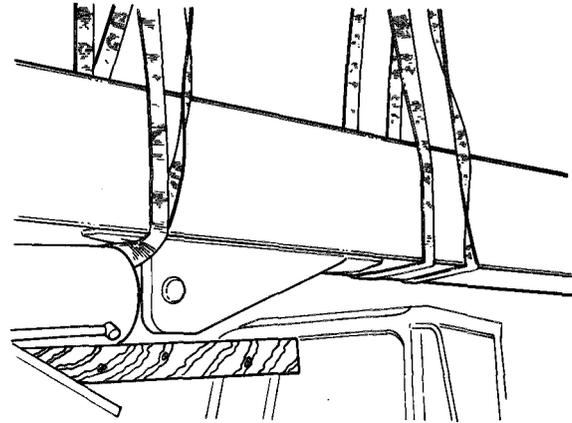

Figure 15-4
13. Attach lifting device to boom, making sure slings are placed for equal weight distribution (Figure 15-4). Take up slack